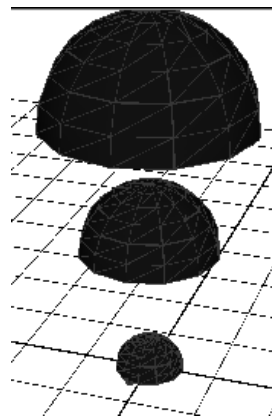

Figure L5.7 - Three Domes
17. Change the radius of the domes to 0.9, 1.2, and 1.5 respectively. Your display should look similar to Figure L5.7.